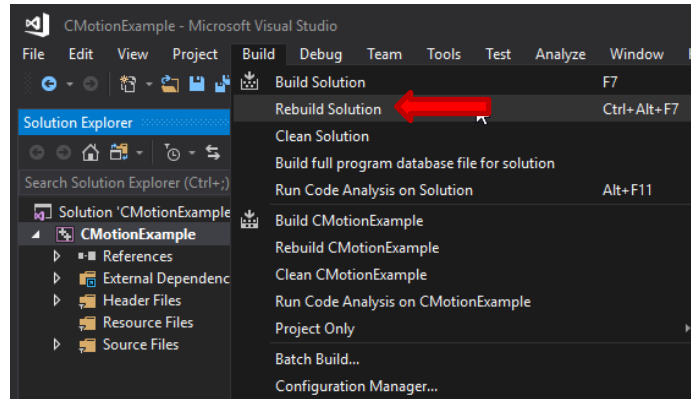

Figure 36 - VS2019 Rebuild
- 8) Build the solution to ensure that everything has linked correctly per Figure 36 - VS2019 Rebuild